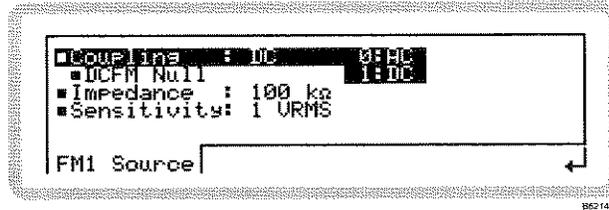

Fig. 3-76 External source
- 2 Press **(SIG GEN)** to show the main screen. Touch the appropriate modulation soft box, followed by **[Ext ...]**, to select the function. Press **[↓ ...]** to view the external source menu (Fig. 3-76).